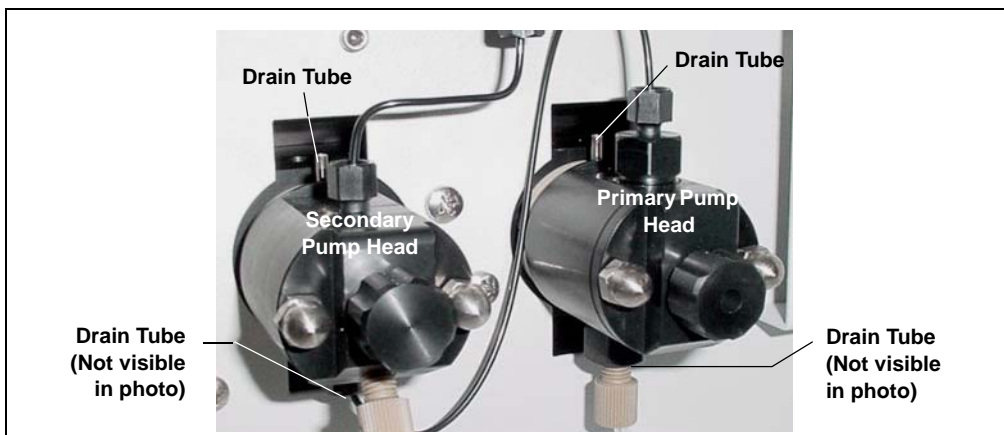

Figure 102. Primary and Secondary Pump Heads with Drain Tubes
4. Install the tubing as follows (see Figure 102):